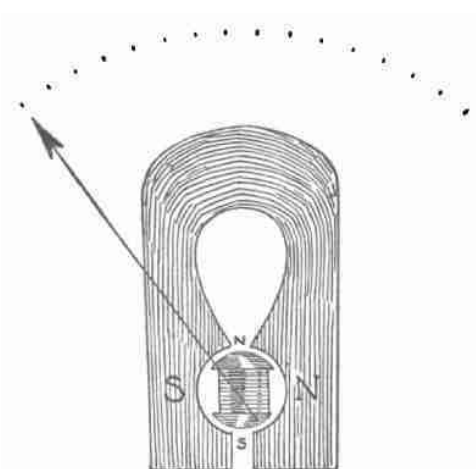
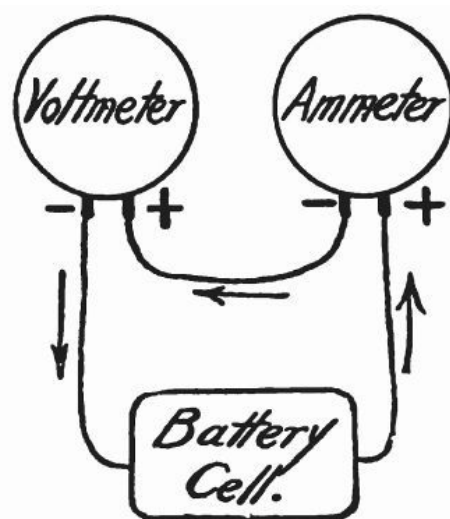
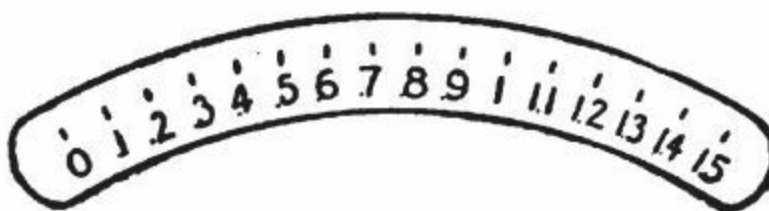

Fig. 51
Fig. 52
Fig. 53
22. *Volt meter*.—The volt meter measures the pressure of an electric current. The volt meter which we examined looked outside like our ammeter, and when we removed the face it appeared inside like an ammeter. There was the steel magnet of horseshoe shape to furnish a field (Fig. 51), and there was an electro-magnet poised between its poles for an armature. The armature in the volt meter, however, had wound upon it finer wire and more of it than was the case in the ammeter. There was no shunt wire in the volt meter as there was in the ammeter. We connected in series a fluid cell (to be described later), the ammeter, and the volt meter (Fig. 52). The ammeter shunt was removed so that all the current went through its armature. The volt meter needle went to one which was two thirds of the scale (Fig. 53), and the ammeter needle indicated .016. That is, this particular cell can push sixteen thousandths of an ampere through the resistance of this volt meter, and .016 ampere passing through the armature of this volt meter will magnetize it sufficiently to move it against its spring, say sixty degrees.